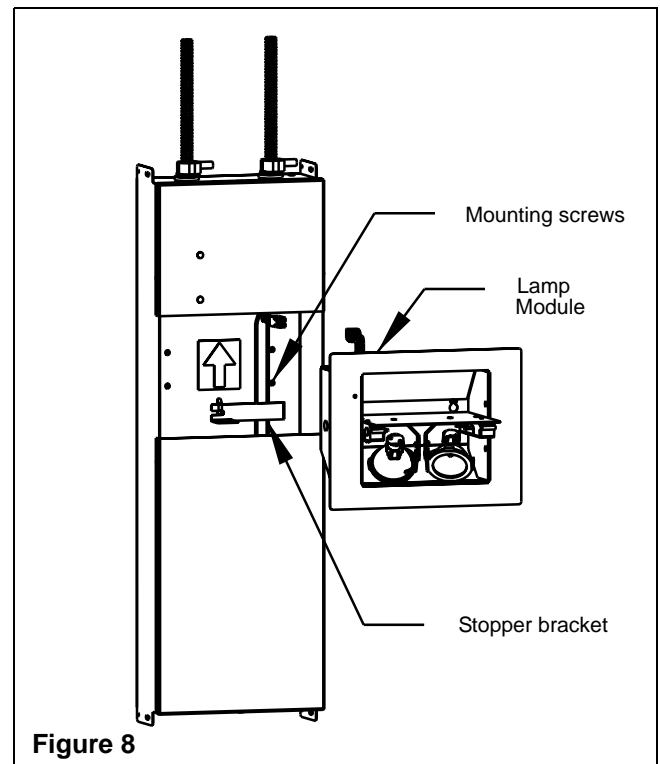

Figure 8
4. Place the two wires under the stopper bracket then slide the bracket towards the left into the slot all the way in the back-box (Figure 8).
- Place the two wires under the stopper bracket then slide the bracket towards the left into the slot all the way in the back-box (Figure 8).
**Lamp Module Installation (Figure 8)**